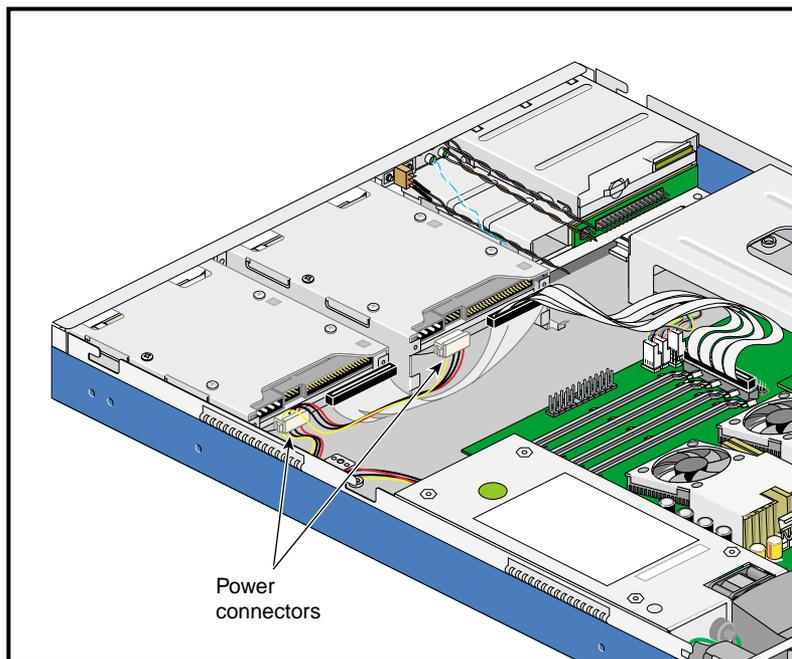

Figure 2-41 Location of the Hard Drive Power Supply Connectors
4. Disconnect the power supply cable from the hard drives. See Figure 2-41 for the location of the hard drive power supply connectors.
7. Connect the power supply cable to the hard drives. See Figure 2-41 on page 72 for the location of the hard drive power supply connectors.